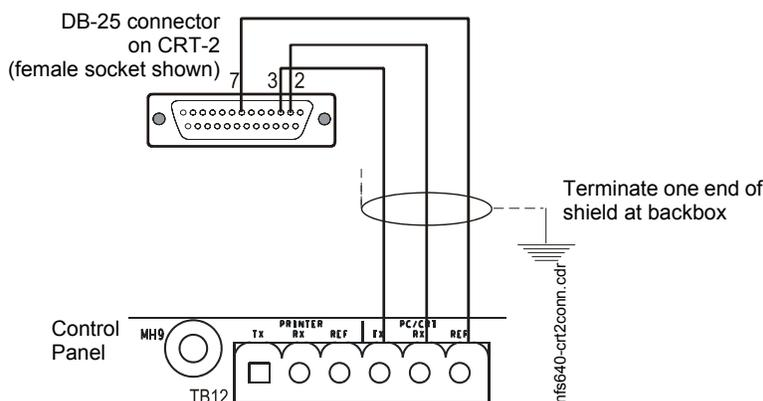

Figure 3.26 Connecting a CRT-2
1. Connect the three (3) open leads of the custom cable to the TB12 terminal block on the control panel as shown in Figure 3.26.